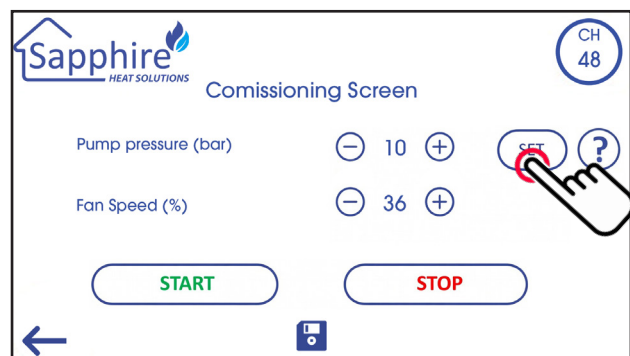

Fig. 24
- Once acceptable combustion settings have been achieved, It is **VERY IMPORTANT** to Press the "Set" button to **SAVE** the setting each time a combustion point is set. **Fig. 24**